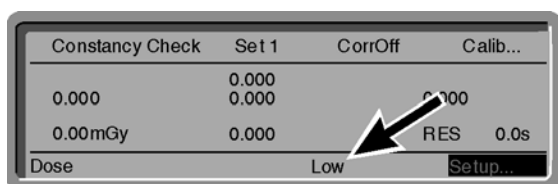

Figure 9-12: "Low"/"High" for adjustment of the measuring range
- To change the measuring range, position the cursor on "Low" or "High" (Figure 9-12) and press ENT.